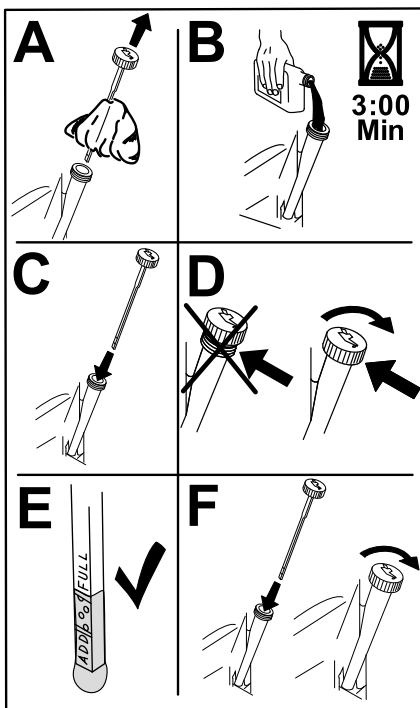

Figure 34
5. Slowly pour approximately 80% of the specified oil into the filler tube and slowly add the additional oil to bring it to the **Full** mark (Figure 34).
3. Fill the crankcase with the proper type of new oil (Figure 34).